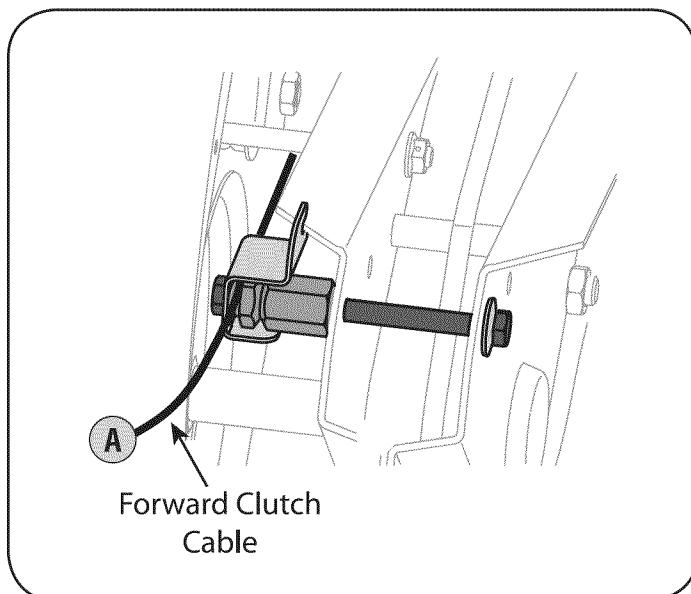

Figure 1
1. Identify the forward clutch cable. See Figure 1.